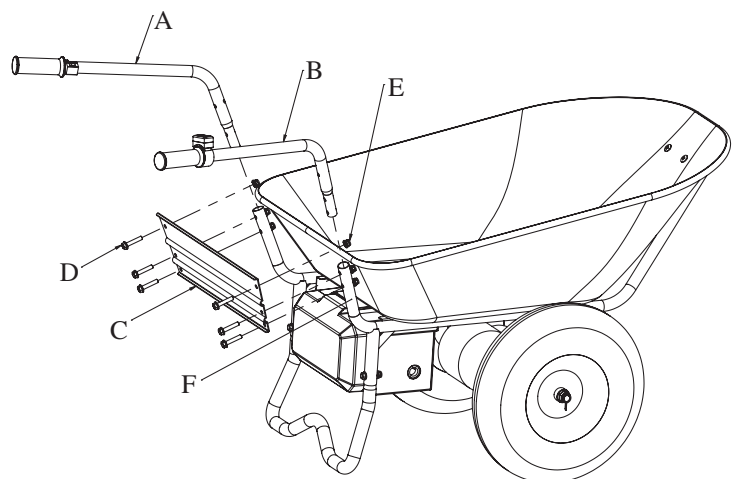

Figure 4
Fix the left handle-bar(A), the right handle-bar(B) and the handle-bar connecting plate(C) on bucket bracket(F) with three bolts M8x40(D) and three nuts M8(E). (See Figure 4)